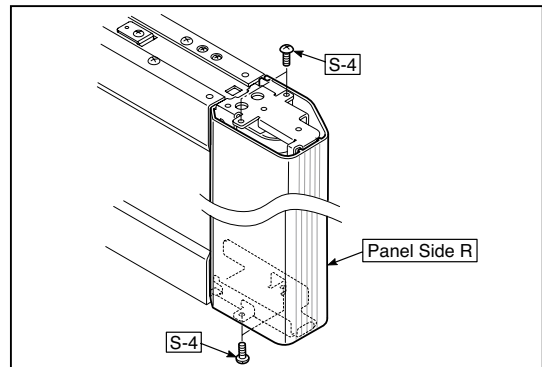

Fig.11
### 5) Remove the Panel Side R. (See Fig. 11)
1. Remove the "S-4" screws shown in the figure 11 and then remove the Panel Side R.